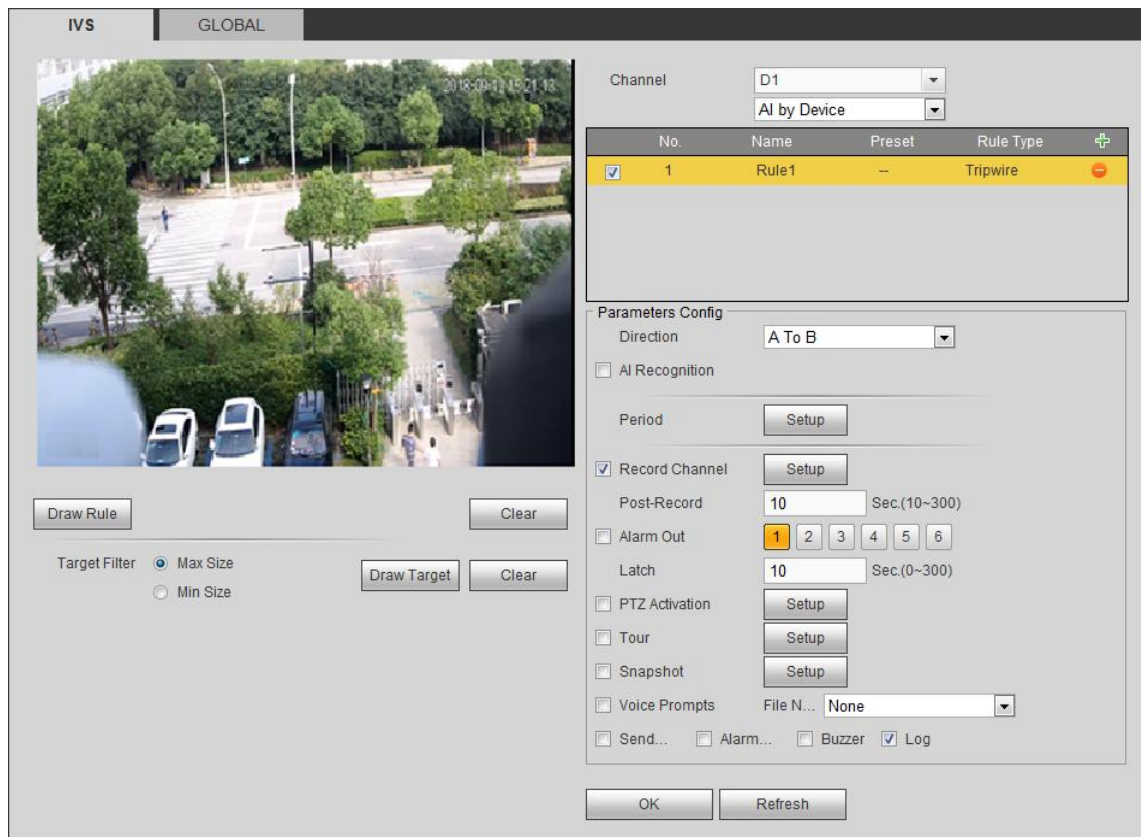

Figure 5-73
Step 3 Click and select the rule type according to the actual needs. See Figure 5-73.